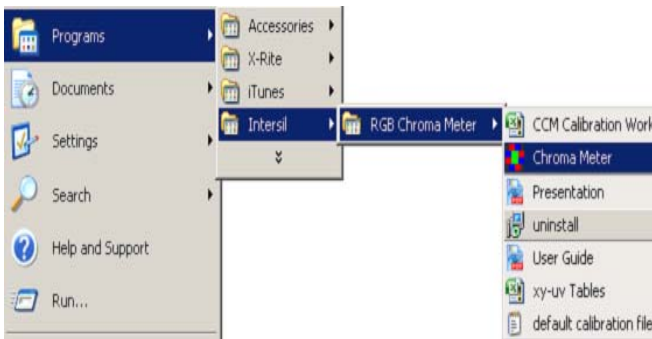

FIGURE 8. INSTALLATION READY TO INSTALL SCREEN
B) **Launching the RGB GUI** - Once the installation is complete, click “Finish” to launch the RGB GUI. If you wish to launch from your PC desktop, use the path shown in Figure 8. (Start → Program → Intersil → RGB Chroma Meter → Chroma Meter.
3. To open the CCM Worksheet, go to the "Start" menu, (Start → Intersil → RGB Chroma Meter → Chroma Meter → CCM Worksheet). The CCM Worksheet contains the coefficient for the specific evaluation board (Figure 8, but choose CCM Worksheet Excel).